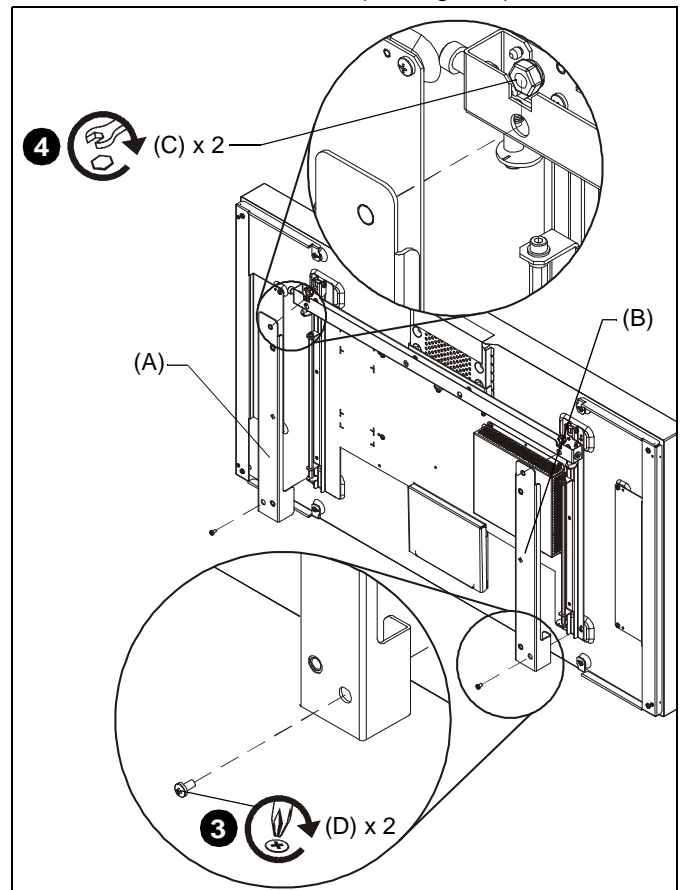

Figure 2
3. Attach bottom of interface brackets (A and B) to display's vertical uprights using two M4 x 8mm Phillips head machine screws (D) through front of bracket and into back of bracket. (See Figure 2)
4. Attach top of interface brackets (A and B) to display's vertical uprights using two M8 Nylock nuts (C) on the studs located on back of brackets. (See Figure 2)